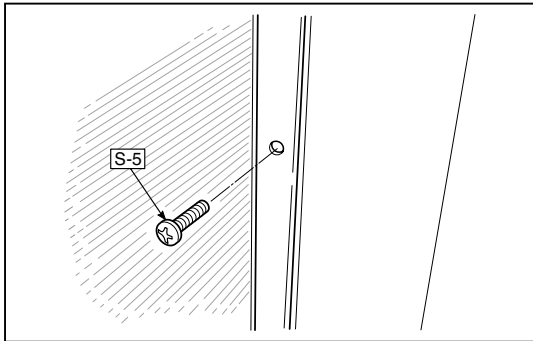

Fig.12
1. Remove the "S-5" screws shown in the figure 12.